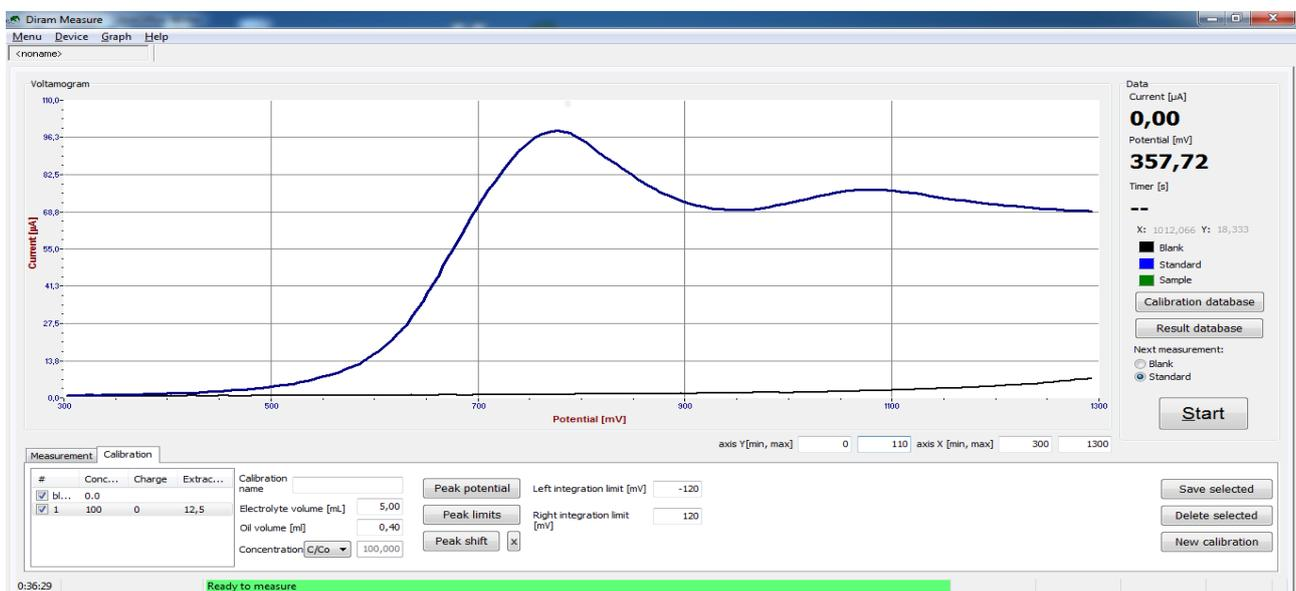

Figure 6: The results for **blank** (black curve) and **standard** (blue curve).
10. Press *Start* button to measure the standard. The result is the blue curve in **Fig. 6**.